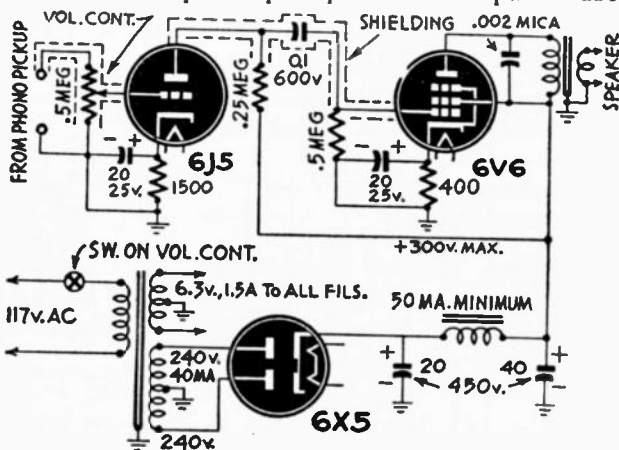

Fig. 310
A. The amplifier shown in Fig. 310 is designed to give you the most power with a minimum of parts and reasonably good fidelity. The values of all parts are given on the diagram. Choke should have about 200 ohms resistance. A phono pickup with an output of about 1 volt